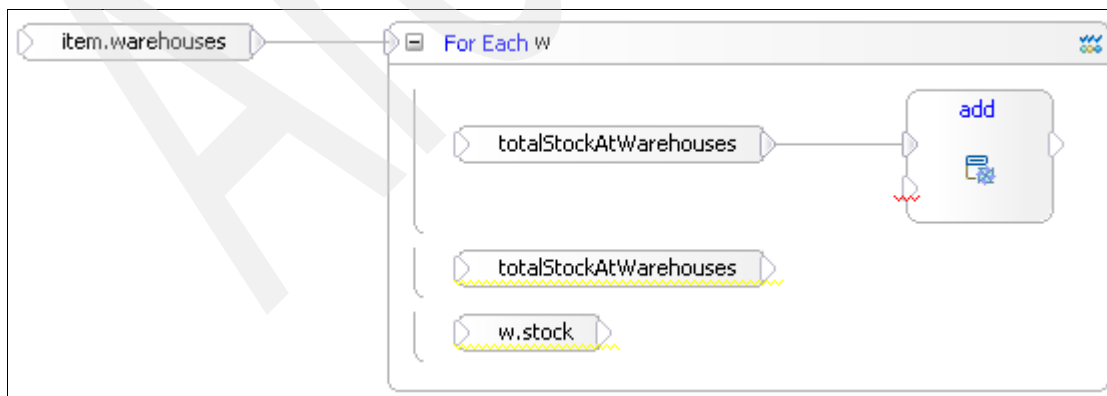

Figure 3-37 For Each intermediate design
- i. Now that you have set the data type of the iterator, you can drill-down and set the field in which you are interested. Click the *w* in the new element and select **w : warehouse** → **stock**. Then, verify that the canvas looks similar to that shown in Figure 3-37.